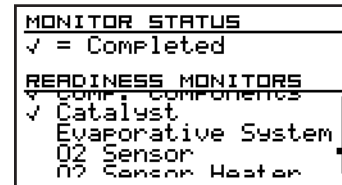

Fig.12
3. Use the up and down arrows to scroll through the list of supported readiness monitors (Fig.12).